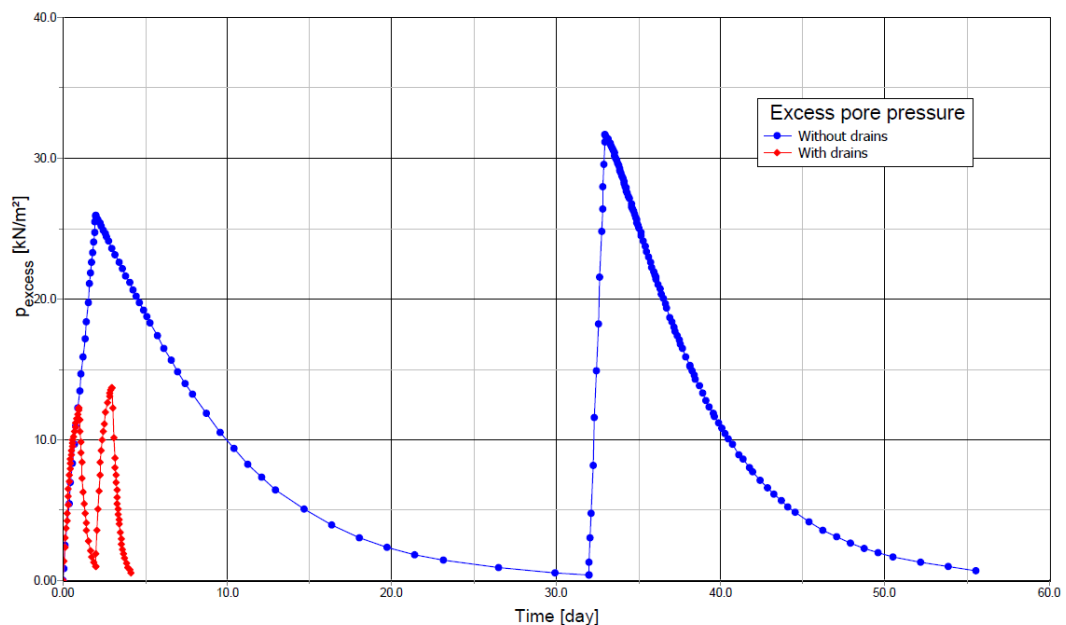

Figure 9–22: Effect of drains
- 10 Click **Apply** to preview the generated curve and click **OK** to close the **Settings** window. The chart gives a clear view of the effect of drains in the time required for the excess pore pressures to dissipate as shown in Figure 9–22 \(p. 164\):